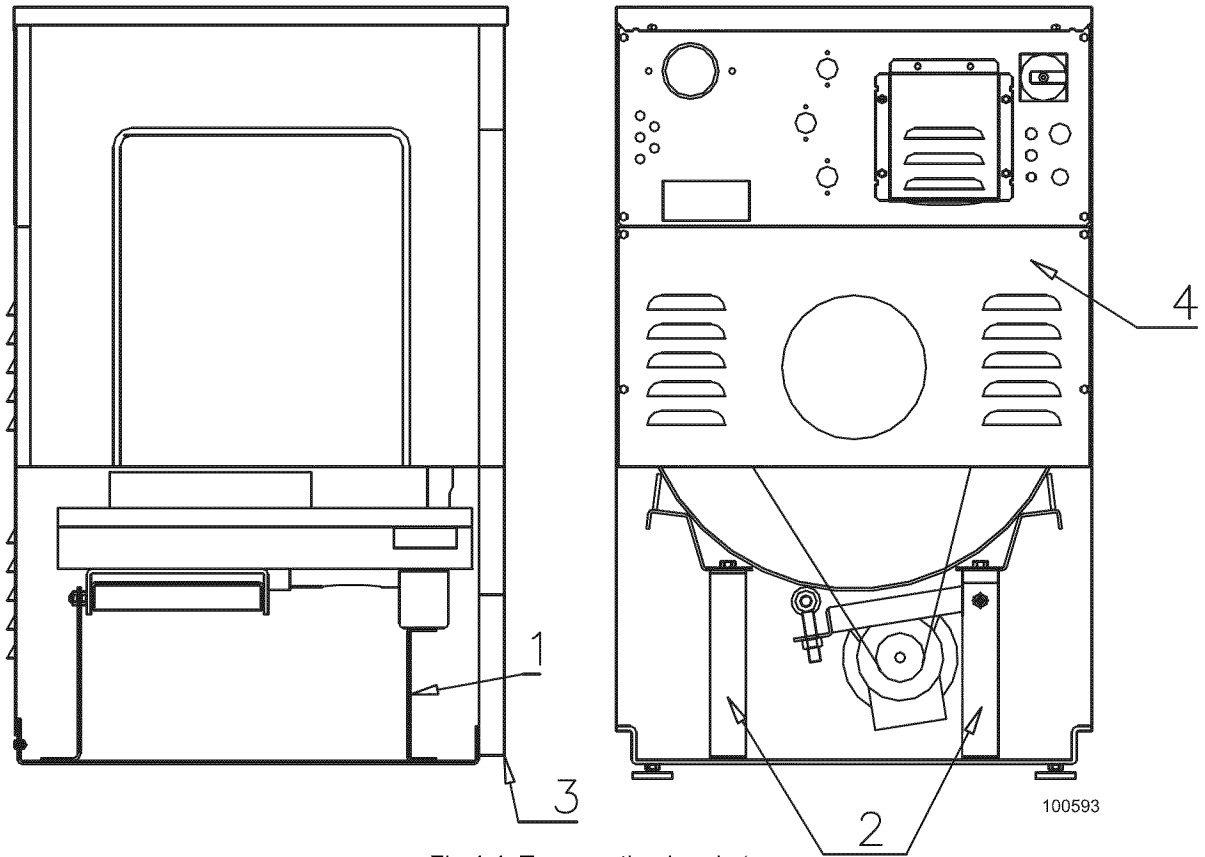

Fig.4.4. Transporting brackets
- Before placing the machine on its place, remove the packaging, loosen the rear panel (see fig.4.4., pos.4) and the service panel (pos.3). Remove the four bolts, which holds the machine on the wooden pallet. Lift up the machine carefully, take care not to damage the machine components.
1. Remove shipping bracket front, fig.4.4. pos.1.
2. Remove shipping bracket rear right, fig.4.4. pos.2.
3. Remove shipping bracket rear left, fig.4.4. pos.2.
After removing the shipping brackets put the service panel, fig.4.4. pos.3 and the rear panel, fig.4.4. pos.4 back on the machine. Keep the shipping brackets pos. 1, 2 for possible future transportation.